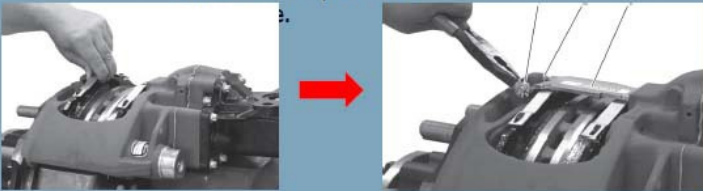

Figure 14 - Install Brake Chamber
1.15. Refit the brake chamber, use the new actuator nuts provided in rebushing kits or (N8908945) provided (see Figure 14).